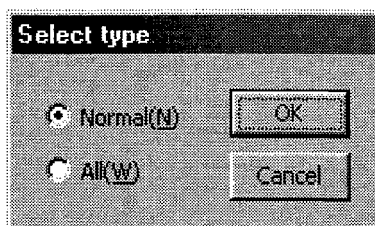

Figure 7.48 "Select type" dialog box
Click "*Upload (U)*" in the "Index TypeB Menu" to display the "Select type" dialog box (see Figure 7.48).